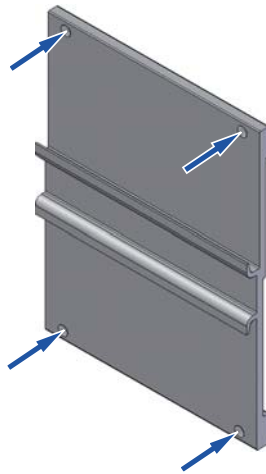

Fig. 1: Mark the drill holes
- Place the RSR wall mounting plate as a drilling template on the wall, due to your requirements, and mark the four drill holes (see Fig. 1).
- unscrew the two lower screws on the device (see Fig. 1 or 2).